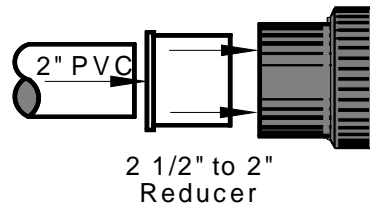

Figure 3
3. If the A&A layout calls for a 2" suction line, a 2 1/2" to 2" reducer fitting must be glued into the Union Coupler (see Figure 3).